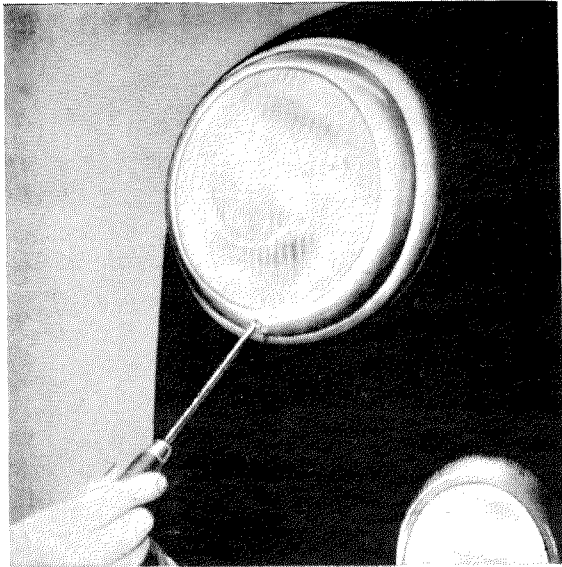

Fig. 82 — 1/1
1. Remove the oval head countersunk screw on the ornamental ring and take off the ornamental ring (Fig. 82 — 1/1).